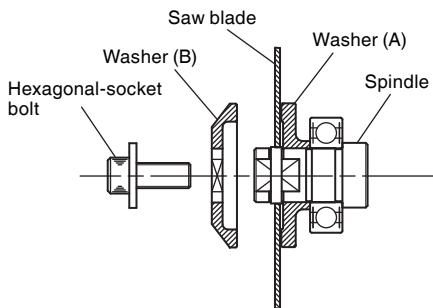

Fig. 8-2
- For saw blades with a hole diameter of 15.9 mm, as shown in **Fig. 8-2**, the concave side of Washer (A) and the concave side of Washer (B) must be fitted to the saw blade sides.
- * Washer (A) is supplied for 2 types of saw blades with the hole diameters of 20 mm and 30 mm. (When buying the Circular Saw, one type of washer (A) is supplied.)